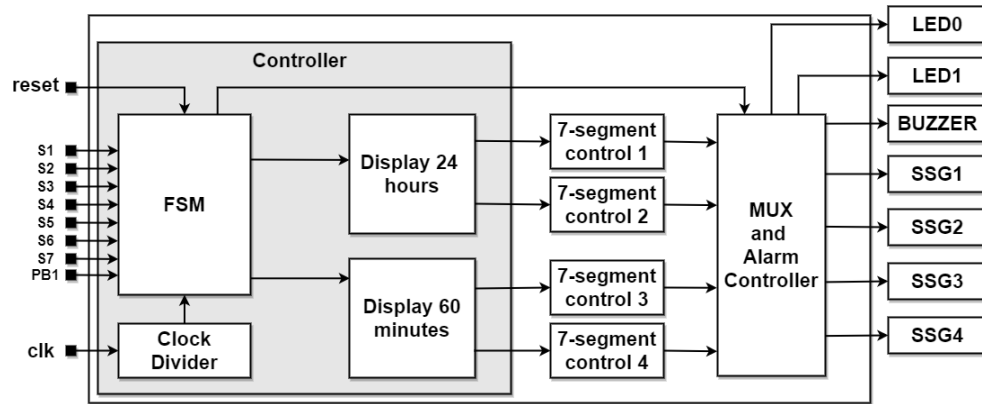

Figure 3 - Architecture of the alarm clock
- To implement the alarm clock as shown in Figure 3 in VHDL, we need a couple of modules.